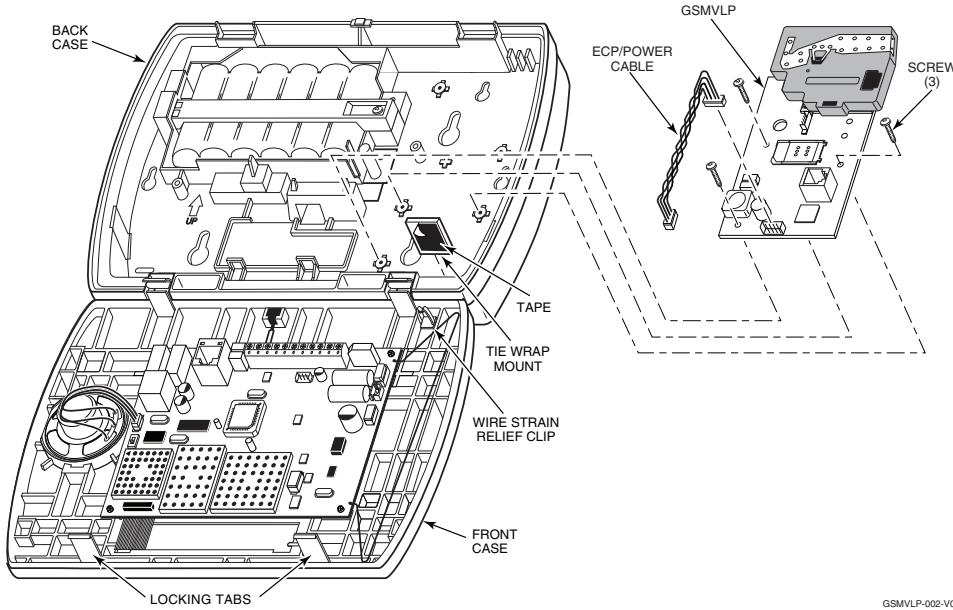

Figure 3 – Installing the GSMVLP Module
- Release the control's front case assembly from the rear case by depressing the two locking tabs at the top of the unit with the blade of a medium size screwdriver (refer to Figure 3).
- Install the GSMVLP into the control's back case and secure it with the three provided screws. Refer to Figure 3.
- Remove the backing from the tape on the provided tie wrap mount. Install the tie wrap mount in the lower right corner of the back case as shown on Figure 3.